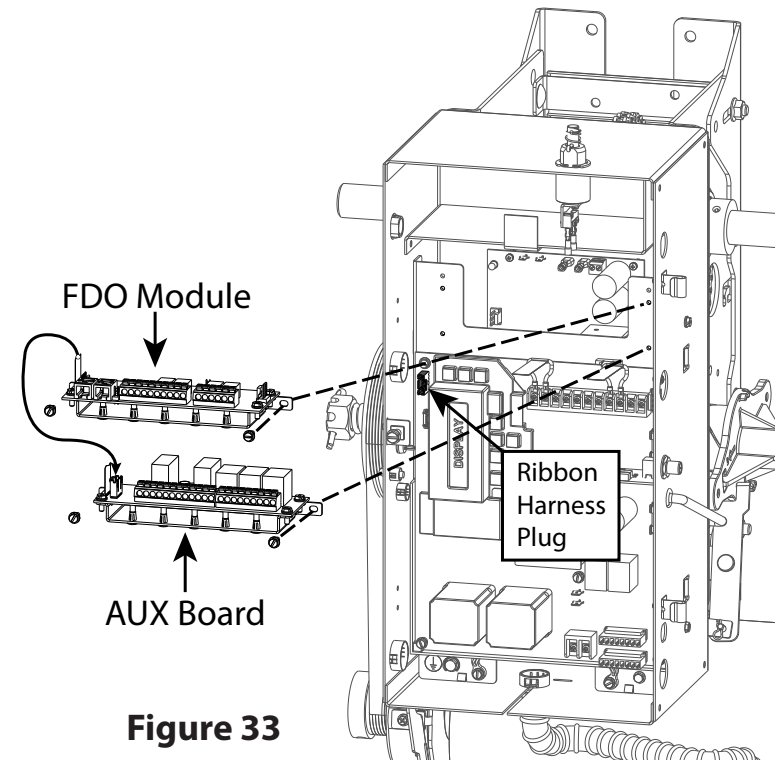

Figure 33
- Unplug FDO module ribbon harness from main control board plug connector. See Figure 33